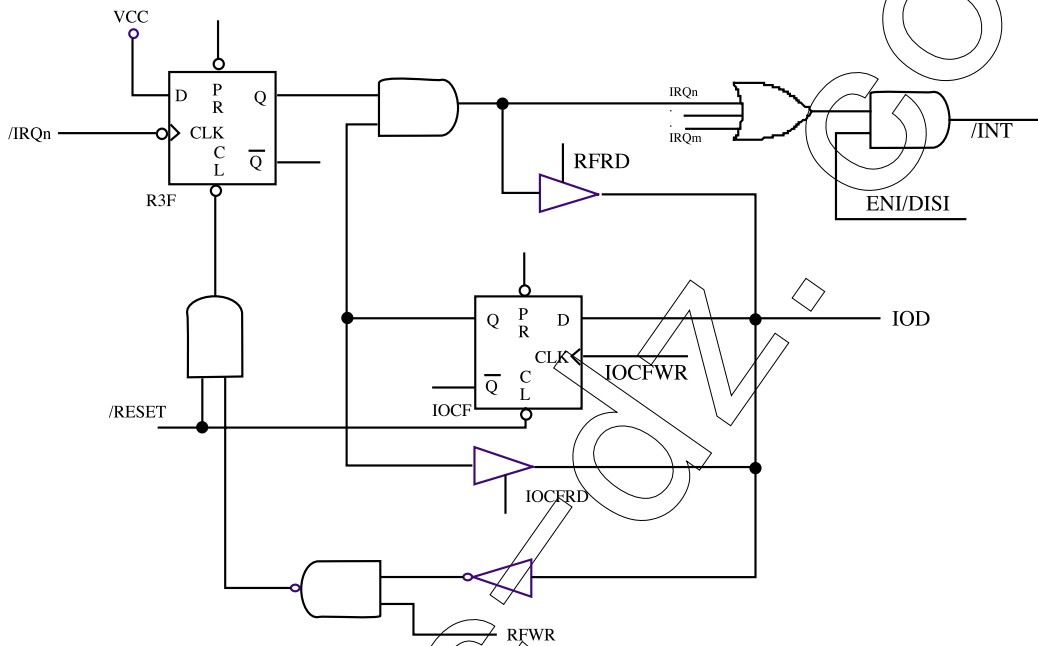

Fig. 15 Interrupt input circuit
- (a) input triggered, refer to Fig.15. When wake-up, the controller will continue to execute the successive address. In this case, before entering SLEEP2 MODE, the wake-up function of the trigger sources (P60~P67, P74~P75, and P90~P91) should be selected (e.g. input pin) and enabled (e.g. pull-high, wake-up control). One caution should be noted is that after waking up, the WDT is enabled if Code Option bit WTC is "1". The WDT operation (to be enabled or disabled) should be appropriately controlled by software after waking up.
The flag in the Interrupt Status Register (R3F) is set regardless of the status of its mask bit or the execution of ENI instruction. Note that reading R3F will get the output of logic AND of R3F and IOCF. Refer to Fig. 15. The RETI instruction exits interrupt routine and enables the global interrupt (execution of ENI instruction).